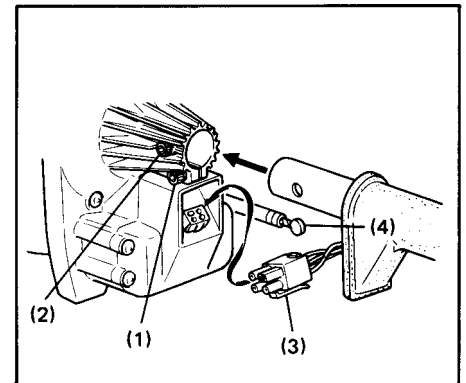

Fig. 1
1. Drive shaft to engine (Fig. 1)